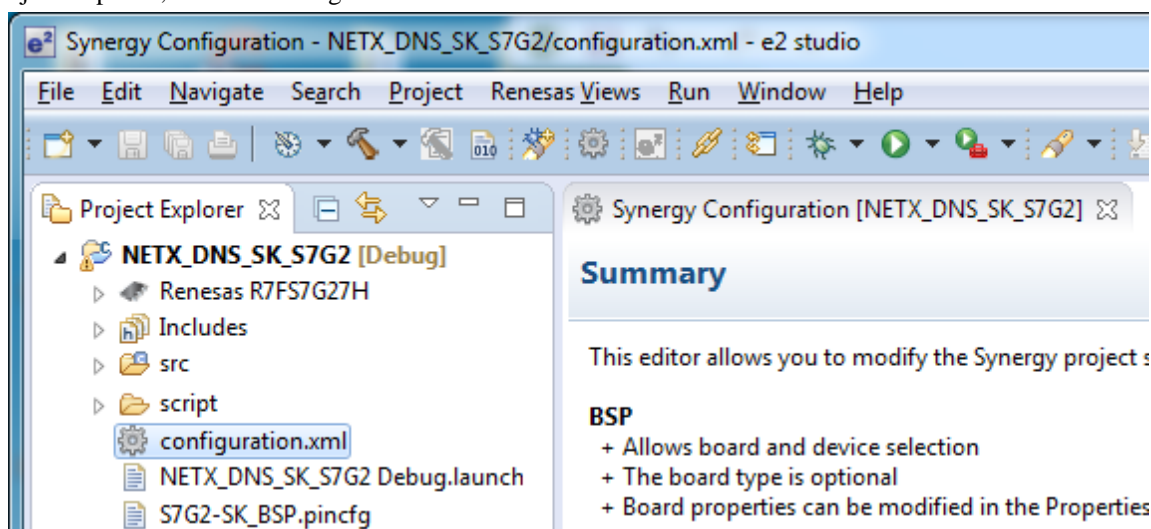

Figure 2.12 Project Explorer
2. Open the Synergy Configuration, if not already open, by double-clicking the `configuration.xml` file in the Project Explorer, as shown in Figure 2.12.